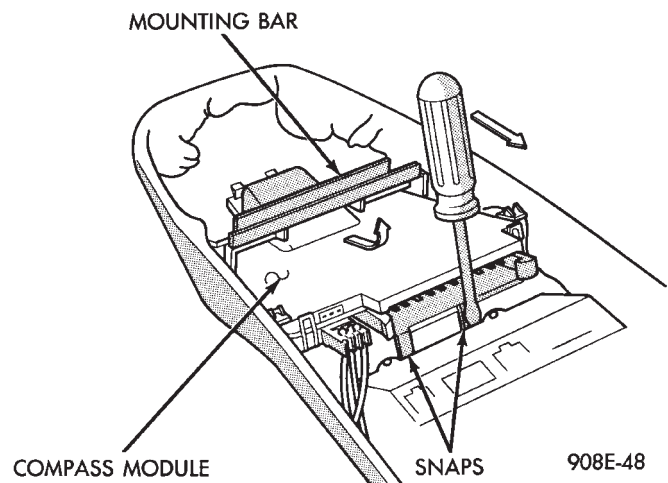

Fig. 7 Compass Module Removal
- (2) Using a small screwdriver, release the 2 snaps at rear of compass module (Fig. 7).
- (3) After releasing the 2 snaps, slide compass module rearward until free of mounting bar.
- (4) For installation reverse above procedures.